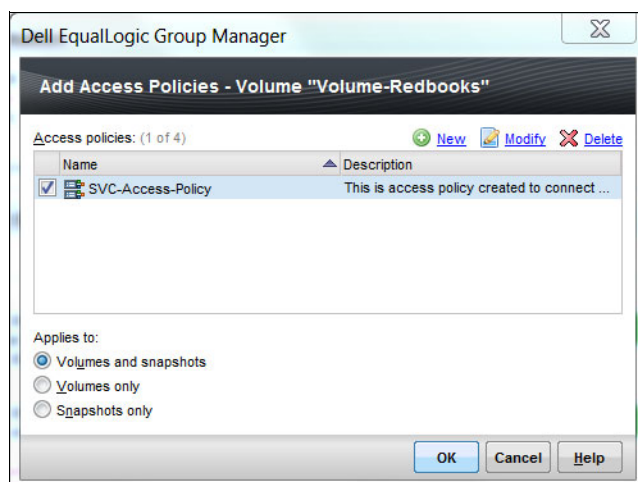

Figure 14-21 Selection of the access policy
4. Select the access policy that you want to apply on the volume. You can optionally create a new access policy by clicking **New**, which takes you to the access policy creation wizard that is described in 14.2.2, “Setting up access policies” on page 271. Click **OK**. The access policy is now applied to the volume. Figure 14-21 shows the access policy that is applied to the volume.